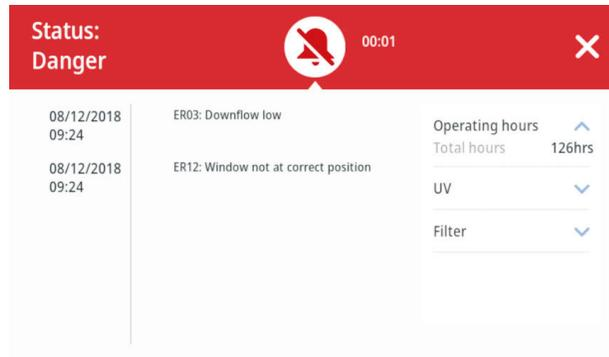

Figure 4-24. Main Screen after two Cycles of Alarm Ticker Message
Tapping the “Snooze” button silences the audible alarm temporarily for a pre-set timeout period. (The default alarm snooze timeout period is 5 minutes, but the setting may be changed in the “Alarms and Alerts” screen, as explained in “Snooze Timeout”). The “Alarm bell” icon is crossed out to indicate that the audible alarm signal has been snoozed (Figure 4-24).
- Tap the yellow “Health Status Alert” icon to display the “Status Alert” screen shown in Figure 4-24 and review the alerts list.